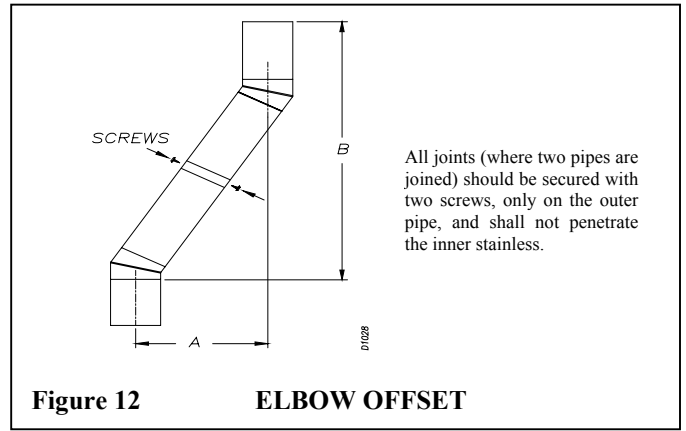

Figure 12 ELBOW OFFSET
Continue to assemble chimney sections as outlined above, making sure that both the inner and outer pipe sections are locked together. When installing double wall “snap lock” chimney together, it is important to assure the joint between the chimney sections is locked. Check by pulling chimney upward after locking. The chimney will not come apart if properly locked. It is not necessary to add screws to keep the chimney together (exception – see page 6 figure 12).
1. To achieve desired offset, you may install combinations of 12”, 18”, 24”, 36” and 48” length of double wall pipe (SEE SINGLE OFFSET CHART AND FIGURE 12).
2. Chimney weight above offset rests on return elbow. Straps must be securely nailed to rafters or joists (see figure 12, details a & b).